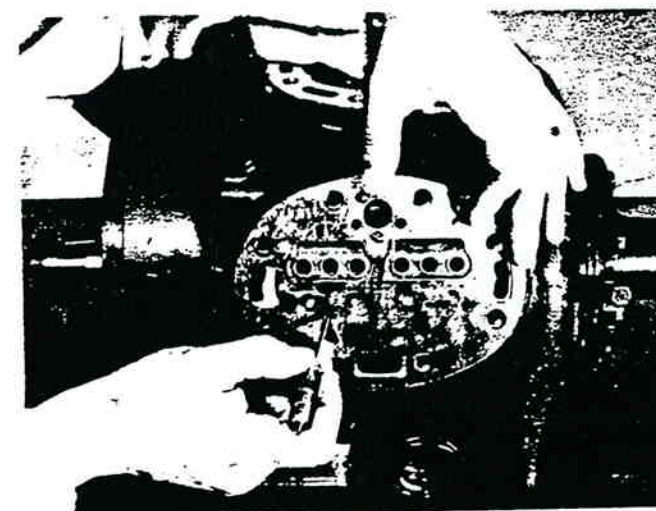

Figure 16-45: Flexing Suction Valve
26. Using a small screwdriver, flex the suction valves to ensure that the valve tips are not being held by the valve plate gasket (figure 16-45).